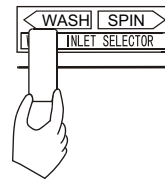

Figure 1
(1) Set the water-filling selector at the "WASH" side. (Figure 1)
(2) Set the water level adjusting lever to needed line.